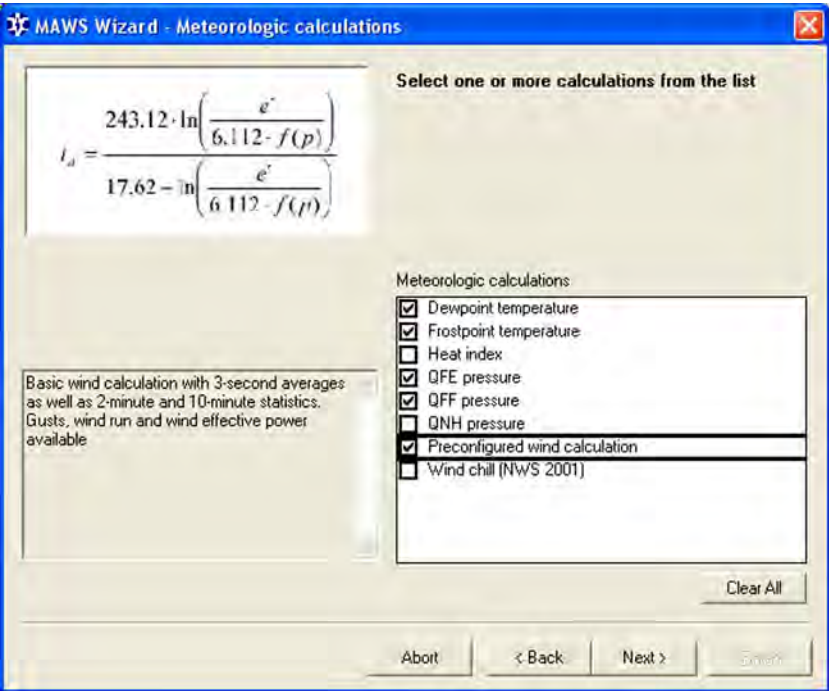

Figure 15 Selecting Meteorological Calculations
6. In the **Meteorologic calculations** view (presented in Figure 15 on page 38), you can select the meteorological calculations you want for your setup. After selecting the necessary calculations, click **Next**.